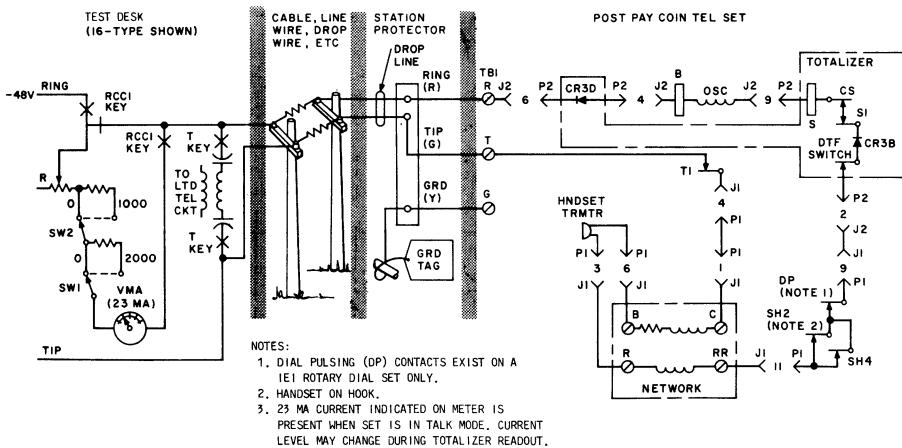

Fig. 3—Totalizer Current Flow Test (Postpay)
- (3) Silicon Controlled Rectifier Test, Fig. 3.